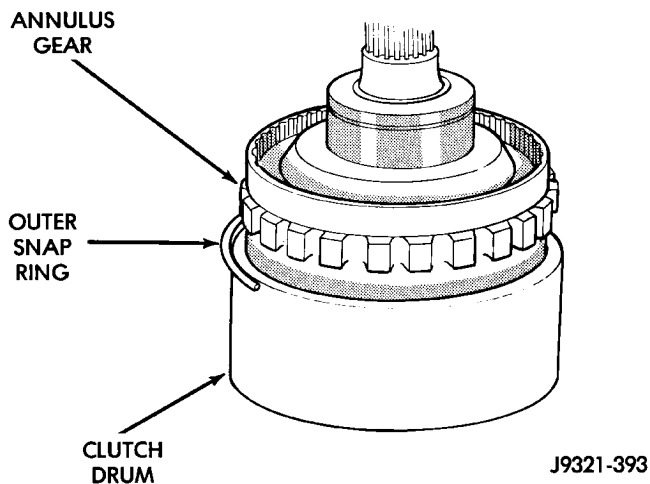

Fig. 215 Clutch Drum And Outer Retaining Ring Installation
(4) Align and install clutch drum on annulus gear (Fig. 215). Be sure drum is engaged in annulus gear lugs.
(5) Install clutch drum outer retaining ring (Fig. 215).